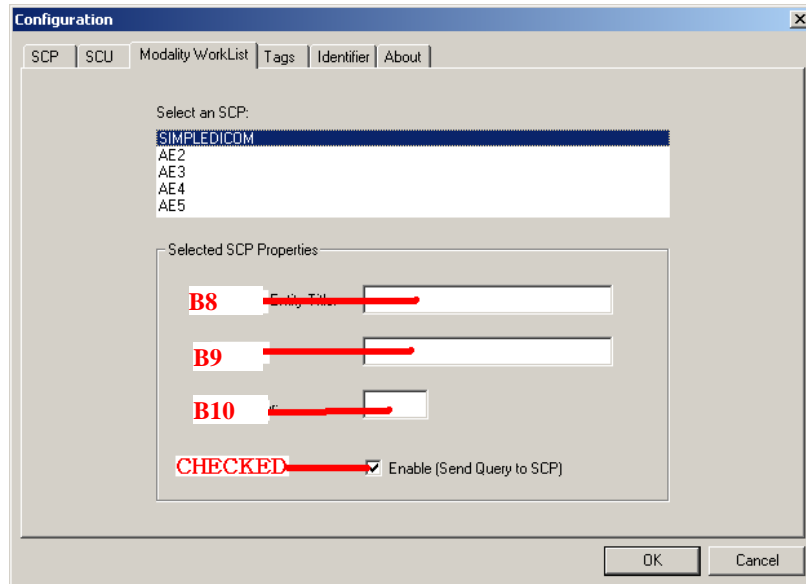

Figure 27
2.2.7. Enter the information from sections B8, B9, and B10 from the DICOM worksheet as shown in Figure 27.